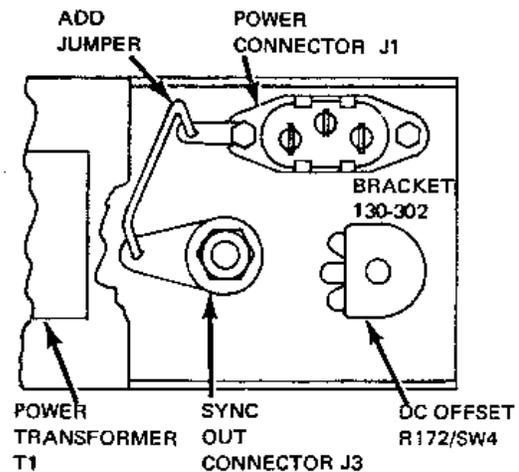

Figure 4-3. Common Ground Connection Diagram
3. Solder a jumper wire between the ground lugs (green wires) of the SYNC OUT connector and the power connector (Figure 4-3).